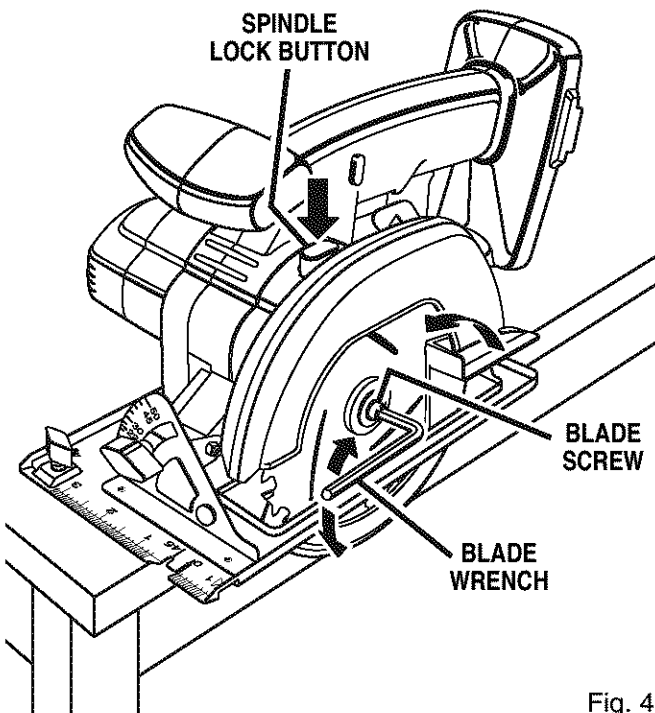

Fig. 4
- Position your saw as shown in figure 4, depress spindle lock button, and remove blade screw.